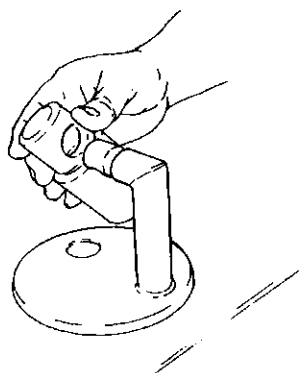

Fig. 5-3
- Take off the vacuum sight glass and remove the float valve from the standpipe (Fig. 5-3).